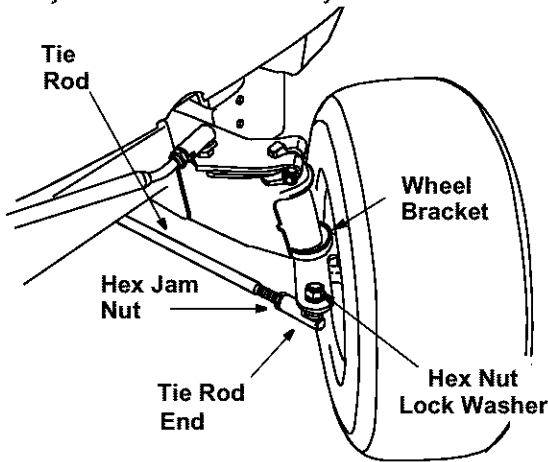

Figure 17
- Remove the hex nut and lock washer, and drop the end of the tie rod from the axle bracket. See Figure 17.